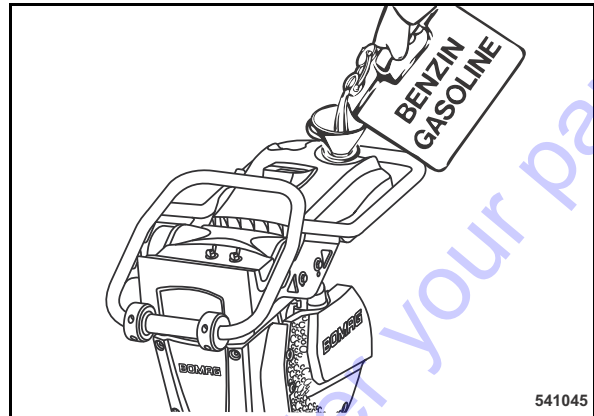

Fig. 37
- Clean the area around the filler cover, unscrew the filler cover (Fig. 37).